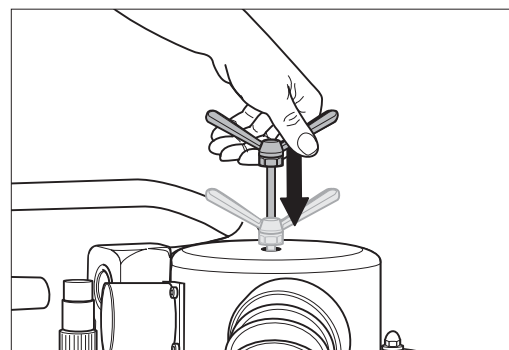

Fig. 32 Push the cleaning slide as far as possible into the filter unit.
- 7 Now it is time to push the cleaning slide all the way down to center the system (Fig. 32). Otherwise the system will be very hard to work with later.